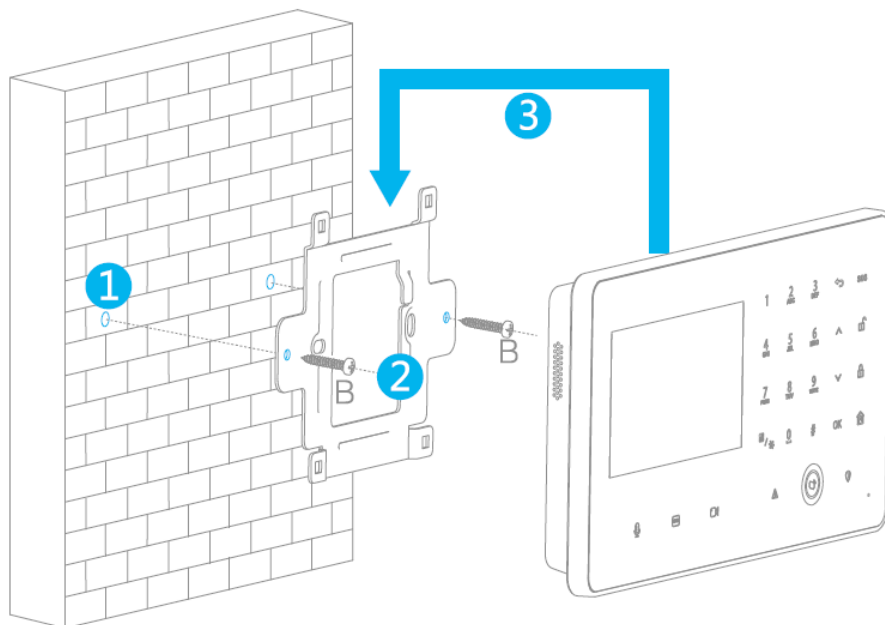

Figure 3-6
- Step 3 Hang the device on the hook of installation bracket in accordance with arrow direction in Figure 3-6.